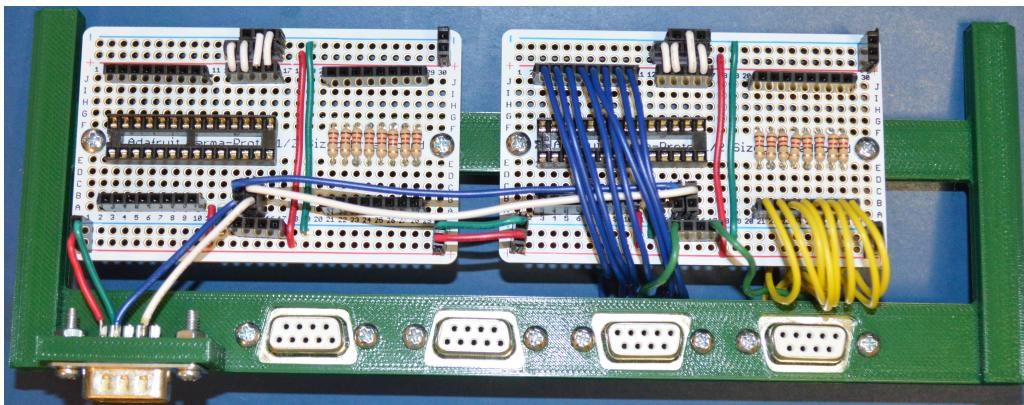

Figure 2.8: Panel I/O Tray with LSB LED and Switch Connectors Wired
- Add wiring to the connectors. See Figures 2.8, 2.9, and 2.10. Also refer to subsection 2.3.4 to make sure that the connector pinouts match those of the panel being connected.